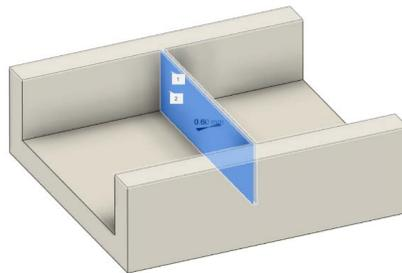

Fig. 1
► Fig. 1 Measuring a wall thickness with the Measure tool.